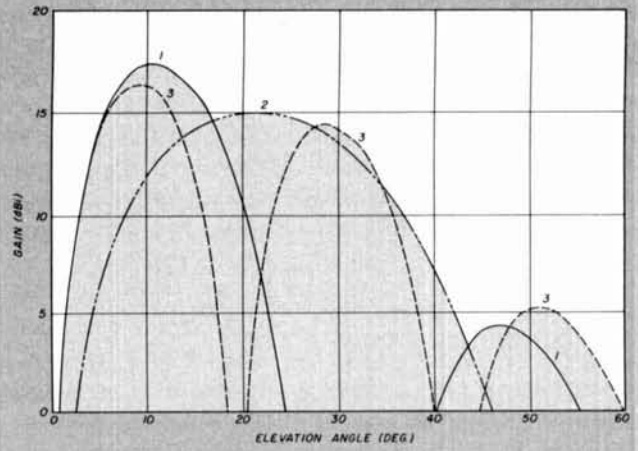
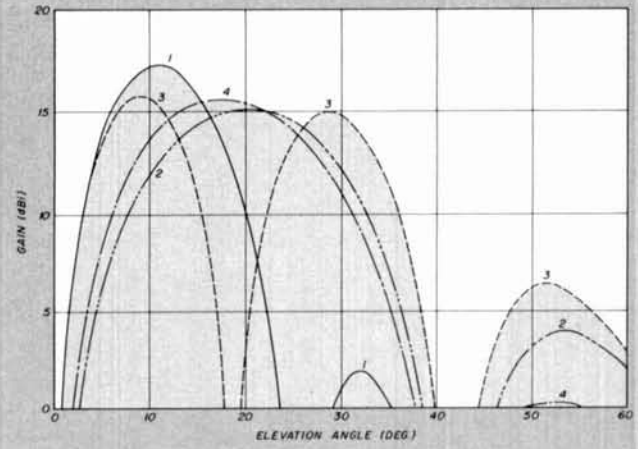
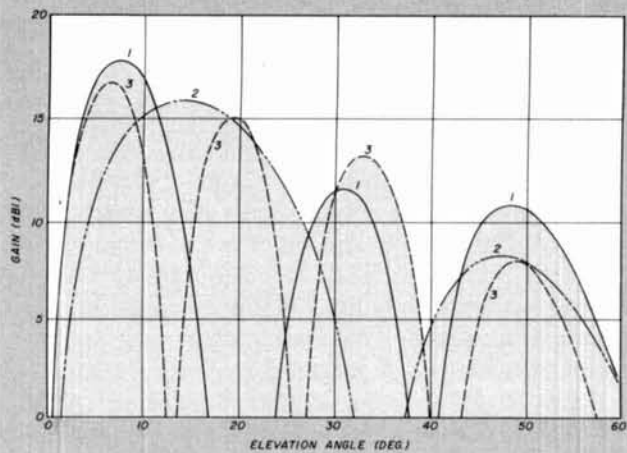
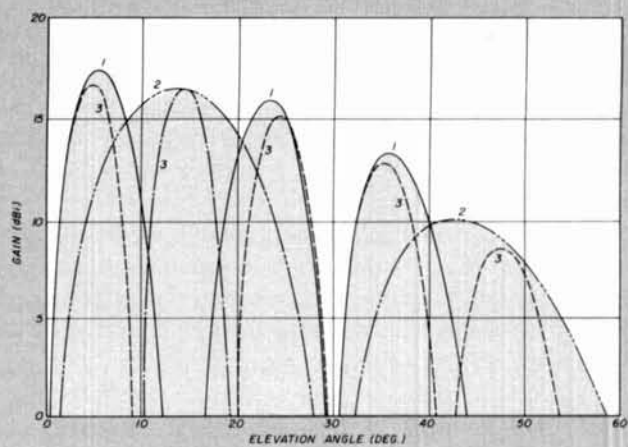

fig. 3D. Gain of a 6-element stack. Curve 1 — both, 2 — lower, 3 — upper.
fig. 3E. Gain of a 6-element stack. Curve 1 — both, 2 — lower, 3 — upper, 4 — lower only (upper physically absent).
fig. 3G. Gain of a 6-element stack. Curve 1 – both, 2 – lower, 3 – upper, 4 – lower only (upper physically absent).
fig. 3J. Gain of a 6-element stack. Curve 1 – both, 2 – lower, 3 – upper, 4 – lower only (upper physically absent).
3. The important (lowest) first-lobe gain is only weakly dependent on the placement of the lower antenna. The gain alone would favor HL somewhat above $HU/2$ (see for example figs. 3G, 3H, and 3I); nevertheless, a lower placement (wider element spacing) will result in smaller beam interactions.
6. Any good (reasonably high) stacked array will benefit by the *Both, Lower, Upper* or BLU switch arrangement (see figs. 3G and 1) where at high angles a fill in the performance can be made (usually) using the lower antenna only. Best higher angle fill occurs when the placement of the lower antenna is at or preferably below $HU/2$. A good practical height is $HU/3 > HL > HU/2$. Note that a good fill obtained in this way slightly compromises maximum gain; however, this compromise is really not very serious.
8. A number of excellent stacked arrays can be chosen from these figures. As a good example note fig. 3D. I have operated a stack very much like this on 14 MHz for several years; experience shows this to be a superb performer even without a BLU switch arrangement. Figs. 3E and 3F also look very attractive, but the closer beam spacing results in increased variations in F/B properties and probably would require a BLU switch for best high-angle fill. For a higher stack note the excellent gain performances of figs. 3G through 3I. However, for any of these cases, a fill seems desirable by the use of a BLU switch; note that for best fill at some higher angles the *upper* antenna should be used. For a very high stack fig. 3J provides exceptional stacked gain, and by the additional use of the lower antenna (for fill), it accommodates radiation angles up to nearly 30 degrees. However, at the 30 degree angle the system performance is abysmal, giving essentially zero response for any setting of the BLU switch.
table 4. Performance of stack shown in fig. 3D vs. relative phase angle, ϕ , of lower-to-upper drive current. Gain is in dBi, elevation angle in degrees, F/B in dB, R and X in ohms, and ϕ in degrees.
more than two Yagi antennas. It is obvious that some additional performance improvement should be possible provided the mast height is sufficiently high. As examples I show computations for two different evenly spaced stacks shown in table 5. The first stack shows three of the 6-element Yagis evenly spaced with a top height of 2.25λ , and the second shows four 6-element Yagis evenly spaced to a top height of 3.0λ . Figs. 6 and 7 show the H-plane patterns for these two systems; they should be compared with figs. 3G and 3J, which are basically equivalent 2-Yagi stacks of comparable mast height. It is at once apparent from fig. 6 that the addition of the third Yagi antenna gives a main lobe gain over fig. 3G of 1.1 dB; all other characteristics are quite comparable. Likewise, fig. 7 shows that the two additional Yagi antennas give a main lobe gain increase of 1.9 dB over fig. 3J; again, all other characteristics are quite similar.
I shall conclude this article on stacking by referring again to the basic two-antenna stack shown in fig. 3D. Note that the F/B performance has deteriorated from the excellent free-space performance of the individual Yagi antennas of 48 dB to 22.7 dB. Analogous to the optimization of a single Yagi antenna over ground,¹ it is possible to optimize the basic Yagi de-
sign for this stacked system. Table 6 shows the optimized parameters of the 6-element Yagi antenna first for free space and second for the stack of fig. 3D ($HL = 0.6\lambda$, $HU = 1.5\lambda$). Tables 7 and 8 show the swept-frequency performance of each of these cases close to the design frequency.
table 8. Performance of (fig. 3D) optimized, stacked 6-element Yagi over ground. (Specification in table 6.)